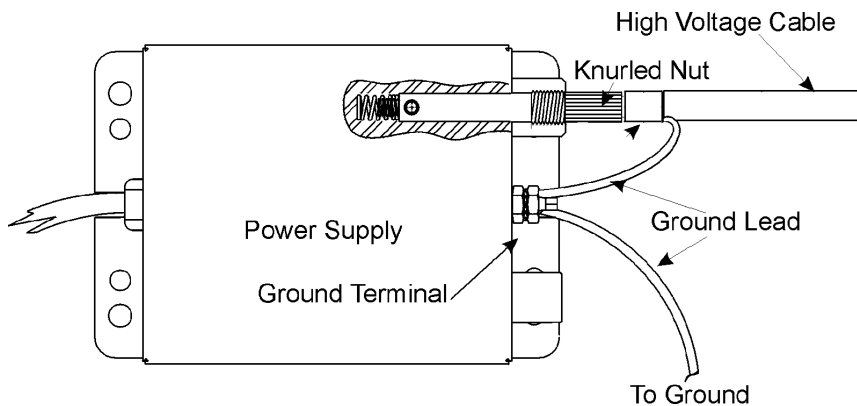

Figure 12. Installation of High Voltage Cable Assembly to "D" Power Supplies
5. Connect a ground wire to the ground terminal of the power supply. (See **Figure 12** for ground terminal location)
- For “D” connect ground wire to ground terminal of power supply. For TrueAC, connect shield wire to shield terminal of power supply (see **Figures 12** and **13**)